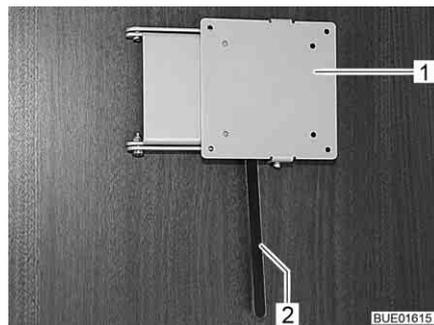

Fig. 46 Holder with release lever
- Push the release lever (Fig. 46,2) to the side and turn the holder (Fig. 46,1) with the flat screen to the desired position.
- Turn flat screen back until the holder (Fig. 46,1) engages in the lock.